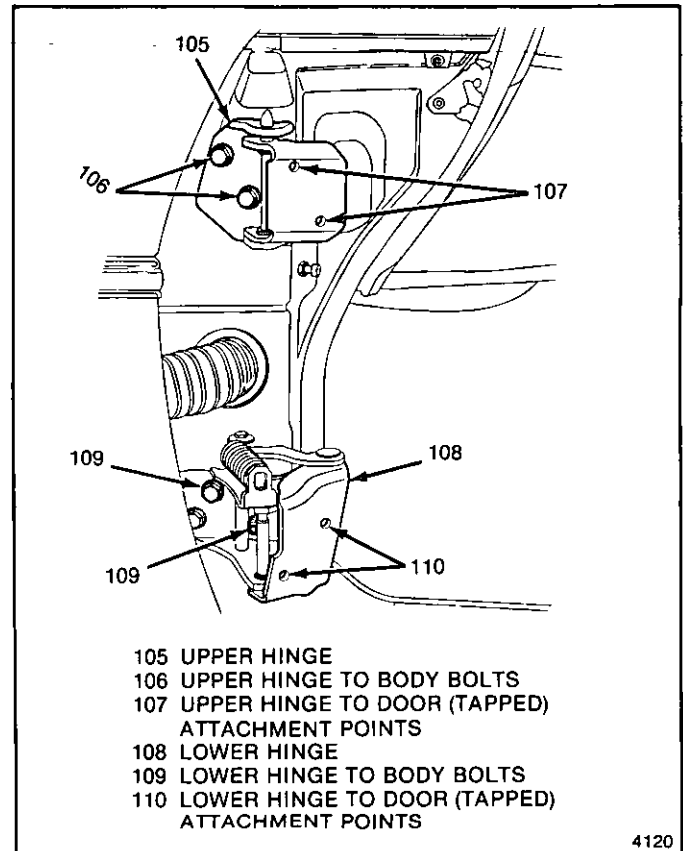

Fig. 5-29-Door Hinges
**Door****↔ Remove or Disconnect (Figure 5-29)**
**↔ Install or Connect (Figure 5-29)**
1. Two bolts at upper hinge strap (107). Coat strap surface that mates with door and bolt threads with sealer. Use aid of second person to hold door.
2. Two bolts at lower hinge strap (110). Coat strap surface that mates with door and bolt threads with sealer.
**DOOR HINGE****↔ Remove or Disconnect (Figure 5-29)****! Important**
**Install or Connect (Figure 5-29)**